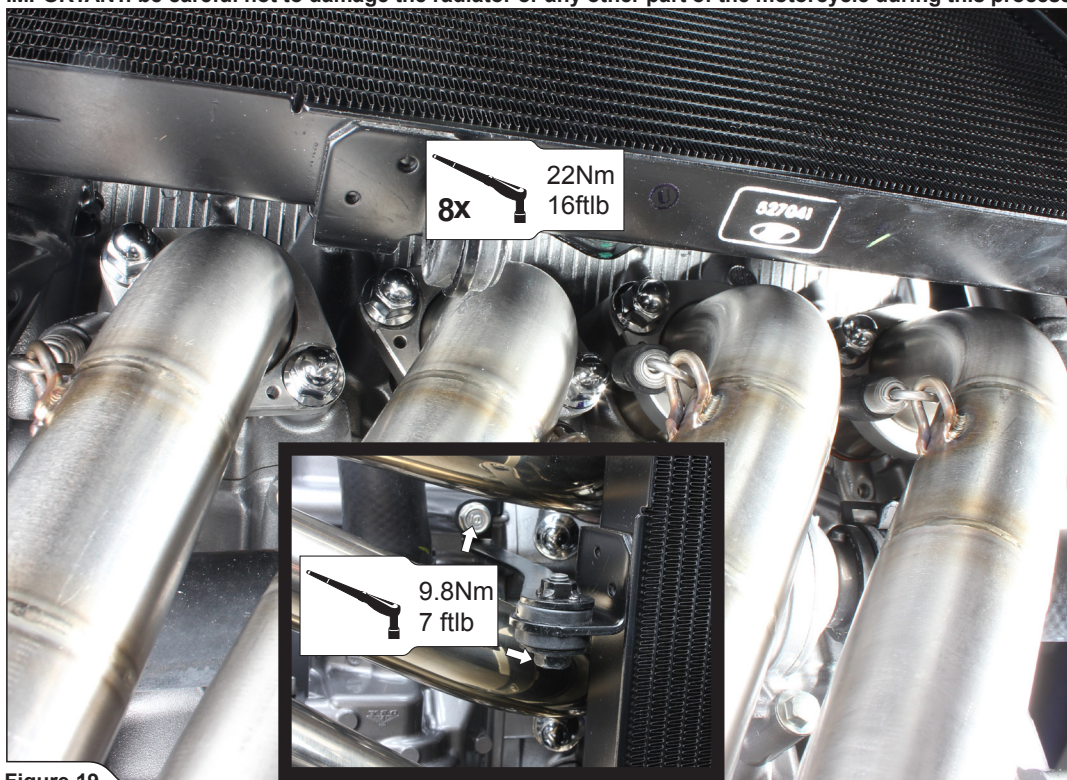

Figure 19
4. Insert the headers into the sleeves, attach the springs, tighten the flanges to specified torque and reinstall the radiator's bracket (Figure 19).